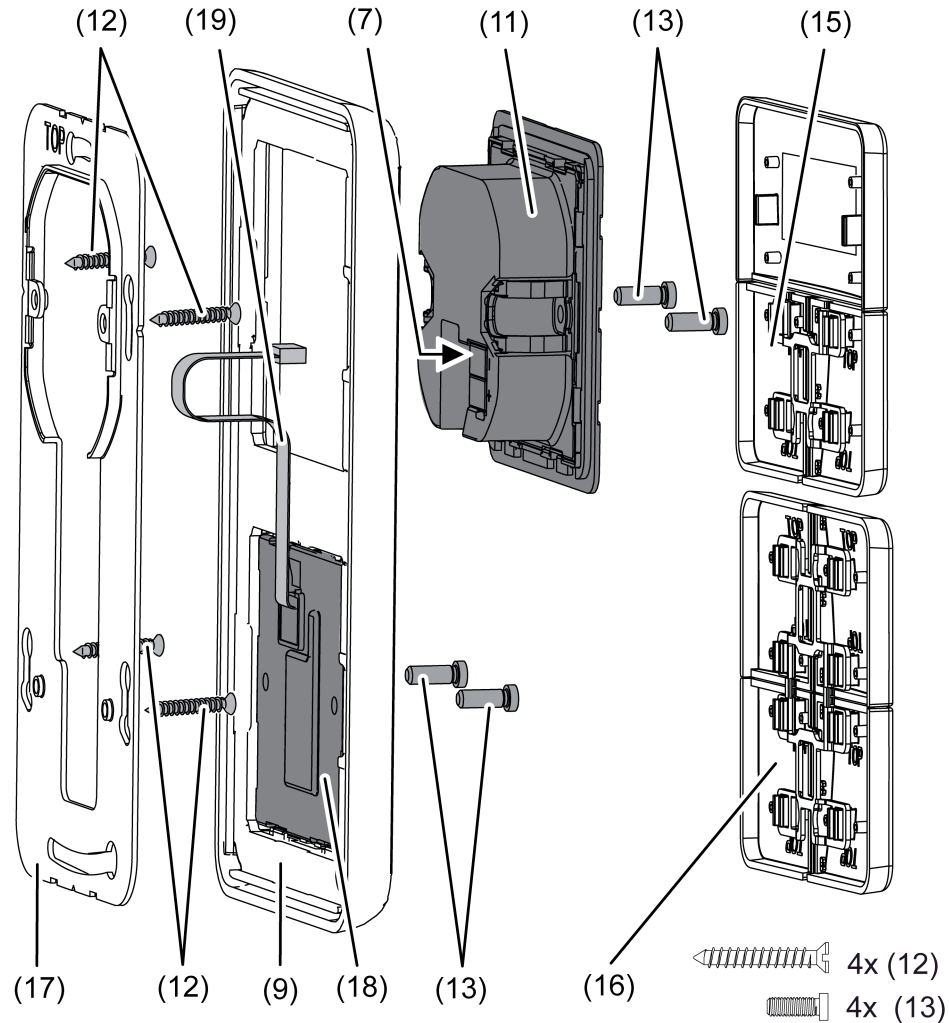

Figure 4: Assembling the push-button sensor extension module
A push-button sensor extension module can be connected to each room controller module. When mounting the extension module, the large supporting frame (17) must be fitted (figure 4). The large supporting frame is contained in the scope of supply of the push-button sensor expansion module.